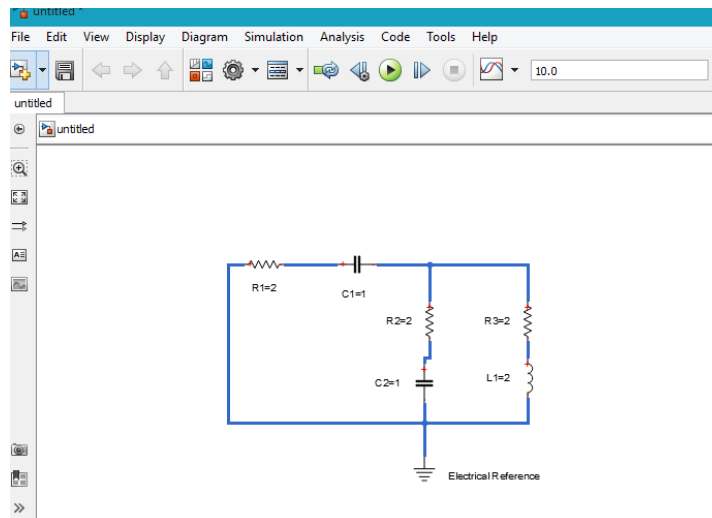

Figure 3.7: Connect the element, step6
6. Connect the Resistor, Capacitor, and Inductor blocks to one of the Electrical Reference Ground blocks as shown in figure 3.7.